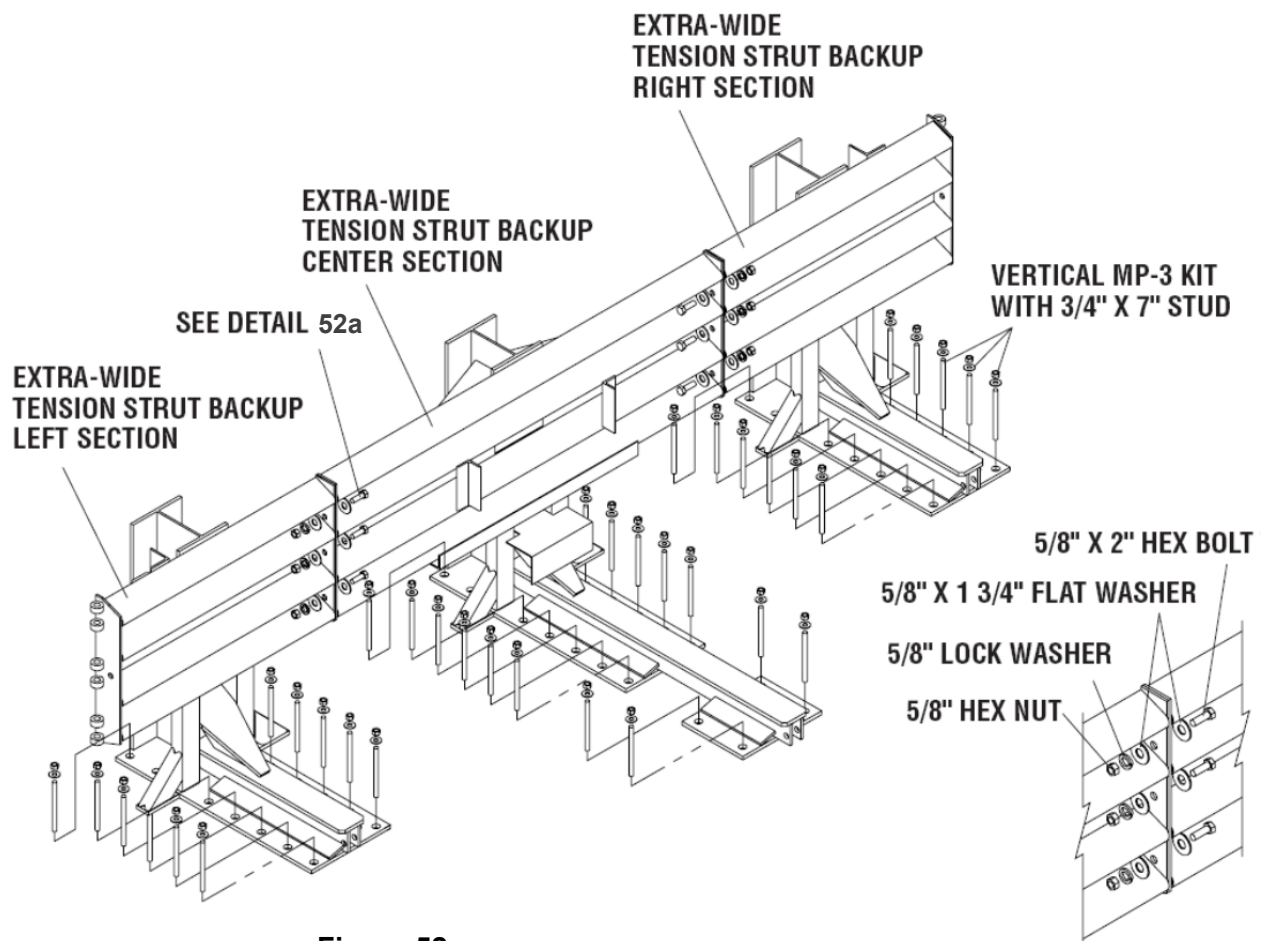

Figure 52
C) Extra-Wide Tension Strut Backup Assembly (Figure 52)
Secure the Backup sections to each other using 5/8" x 2" hex bolt, 5/8" x 1 3/4" flat washer (2), 5/8" lock washer and 5/8" hex nut (6 places) as shown in Figure 52 and Detail 52a.